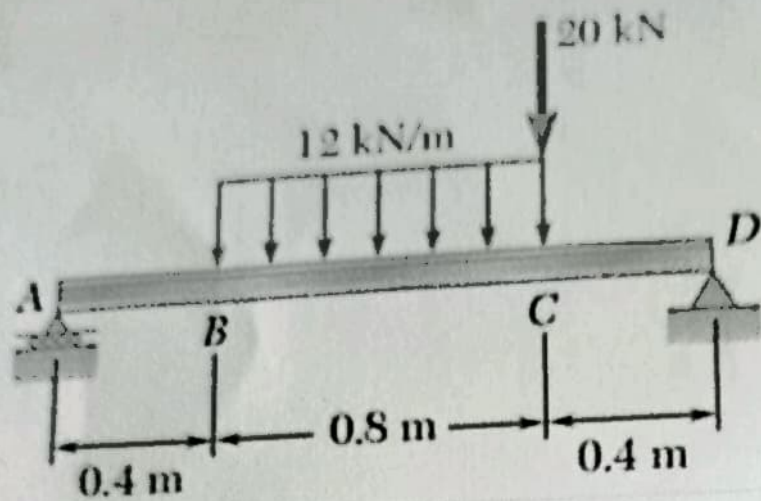

Figure 5
8. For the beam and loading shown in Figure 5, determine (a) the slope at end A, (b) the deflection at point C and (c) the maximum deflection. Use $E = 200 \text{ GPa}$. The moment of inertia about the neutral axis of the I-section shown is $6.83 \times 10^6 \text{ mm}^4$. [20]